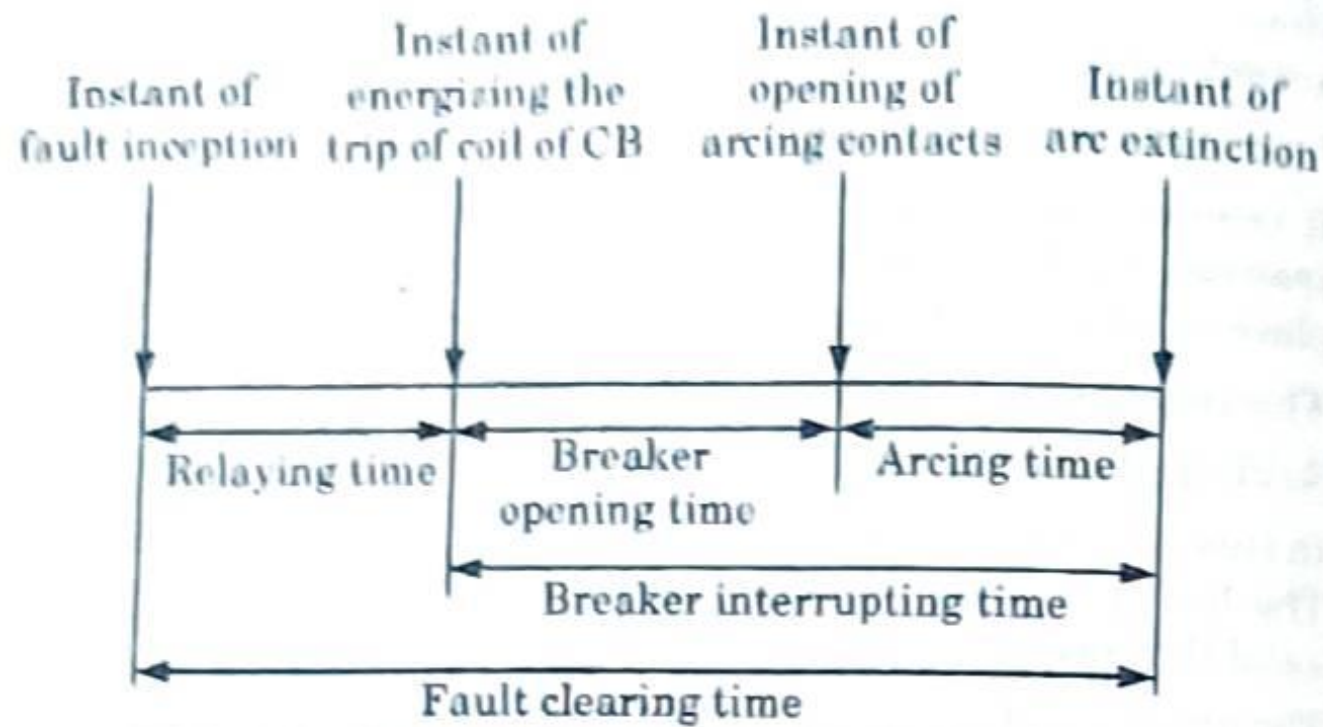

Fig. 4.4.1. Fault clearing time of a circuit breaker.
- The various components of fault clearing time of a circuit breaker as shown in Fig. 4.4.1.